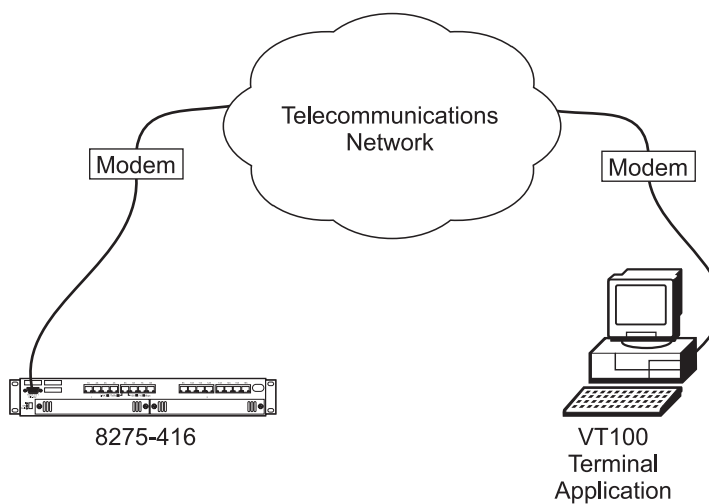

Figure 8. Out-of-band connectivity - remotely attached terminal
2. Attach one end of the serial cable (not provided) to the EIA 232 port of the switch and the other end to your modem as shown in Figure 8.